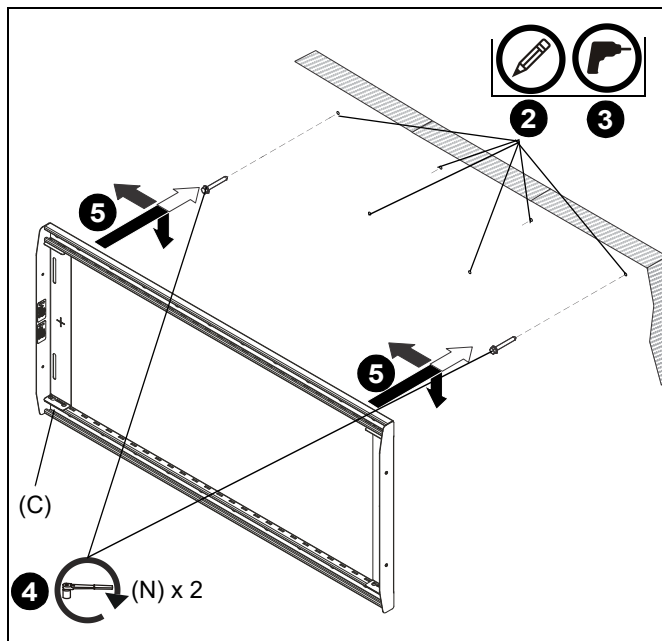
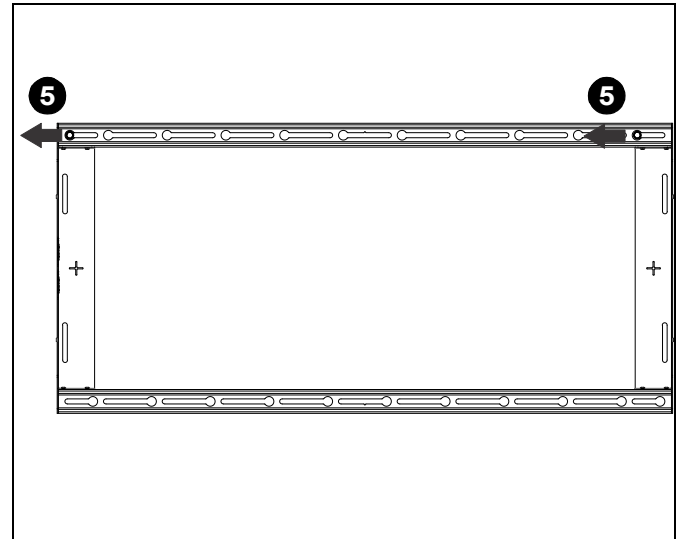

Figure 20
Figure 21
4. Partially install two 5/16 x 2-1/2" flanged lag bolts (N) into outside upper holes but do not tighten to wall. (See Figure 20)
5. Hang rail assembly (C) and slide slightly to the left until bolts (N) are clear of keyhole slots and able to hold mount to wall. (See Figure 20) and (See Figure 21)